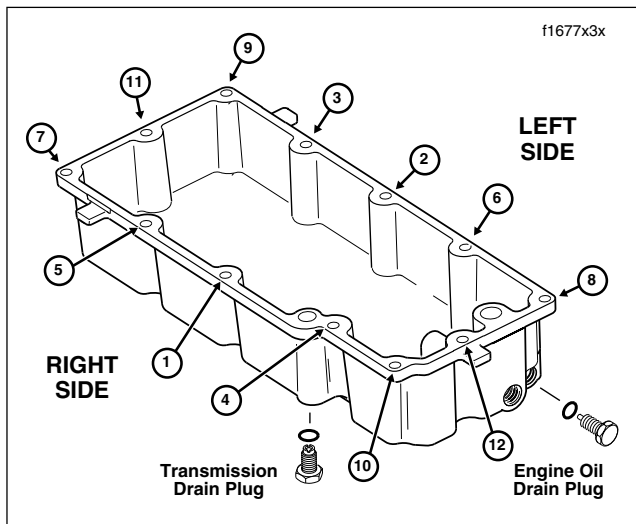

Figure 7-52. Oil Pan Torque Sequence
1. See Figure 7-52. Remove both the engine oil and transmission lubricant drain plugs from the oil pan. Drain the fluids into suitable containers.
5. Tighten the oil pan screws to 84-132 in-lbs (9.5-14.9 Nm) following the numerical sequence shown in Figure 7-52.